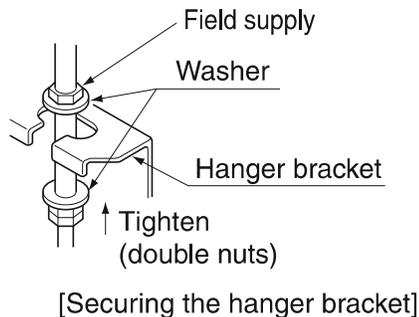

Fig. 10
- Attach the hanger bracket to the suspension bolt. Be sure to fix it securely by using a nut and washer from the upper and lower sides of the hanger bracket. **(Refer to Fig.10)**